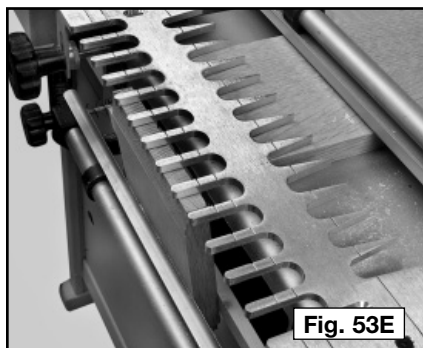

Fig. 53E
- Step 5** - If the angle is steep, the "tails" line may not align with the wood. The joint will be fine if you place the straight portion of the template fingers directly over the tail board (A) Fig. 53E. Otherwise, you may have to use an angled clamping board.